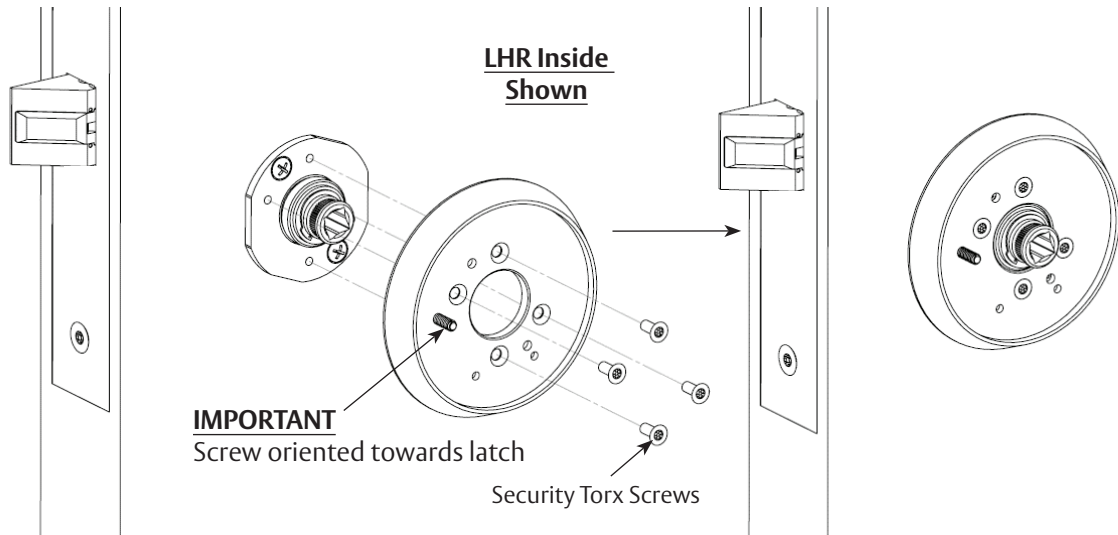

Figure 12
Attach inside rose assembly to inside adapter plate using four (4) security Torx screws. Tighten screws evenly. (Figure 12)